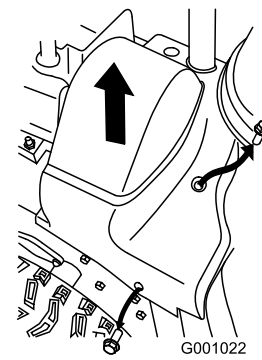

Figure 41
2. Lift up the right side of the belt cover (Figure 41).